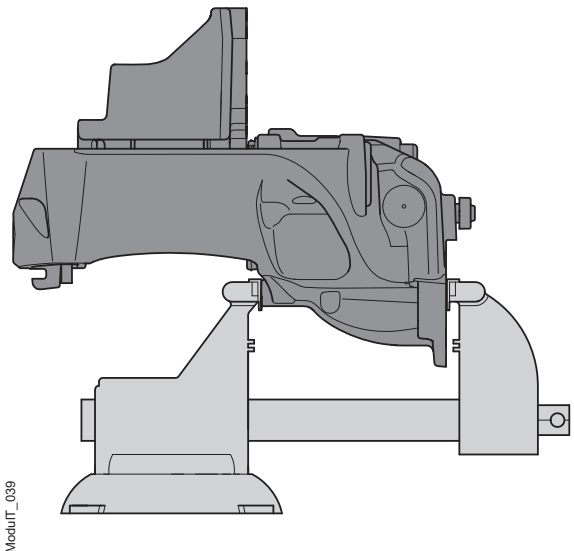

Figure 48. Clamping arrangement for replacing the slide function assembly
1. Fasten the calliper securely in a vice with soft jaws, see figure 48 for clamping arrangement. Ensure that the jaws of the vice do not damage the calliper.